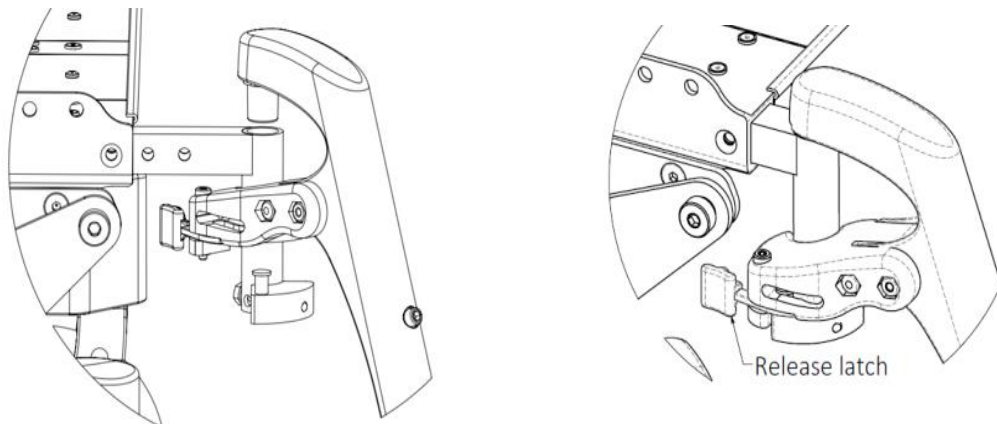

Figure 15.15: *Swing-Away Front Rigging Latch Installation and Removal*
- a. Orient the footrest at approximately 45° outboard of the wheelchair as shown in Figure 15.15
- f. To release the locking mechanism, push the release lever as show in Figure 15.15